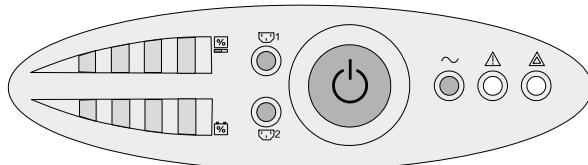

Figure 234 Front Panel of the 1550 Evolution Battery Backup Unit
- ◆ If the front panel of the Battery Backup Unit is as shown in Figure 234, the Battery Backup Unit is **1550 Evolution**.